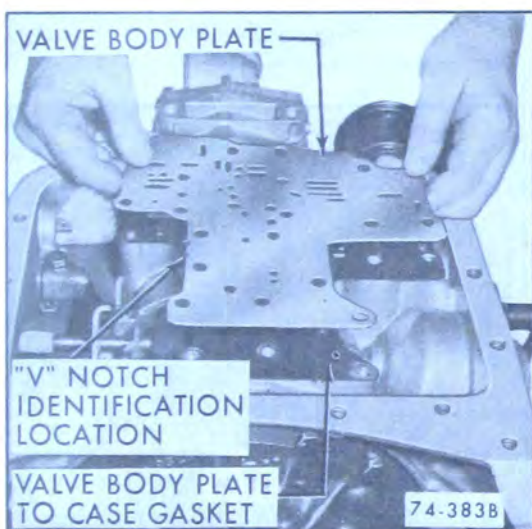

Figure 74-334
1. With transmission in horizontal position, install valve body plate to case gasket and plate. See Figure 74-334.